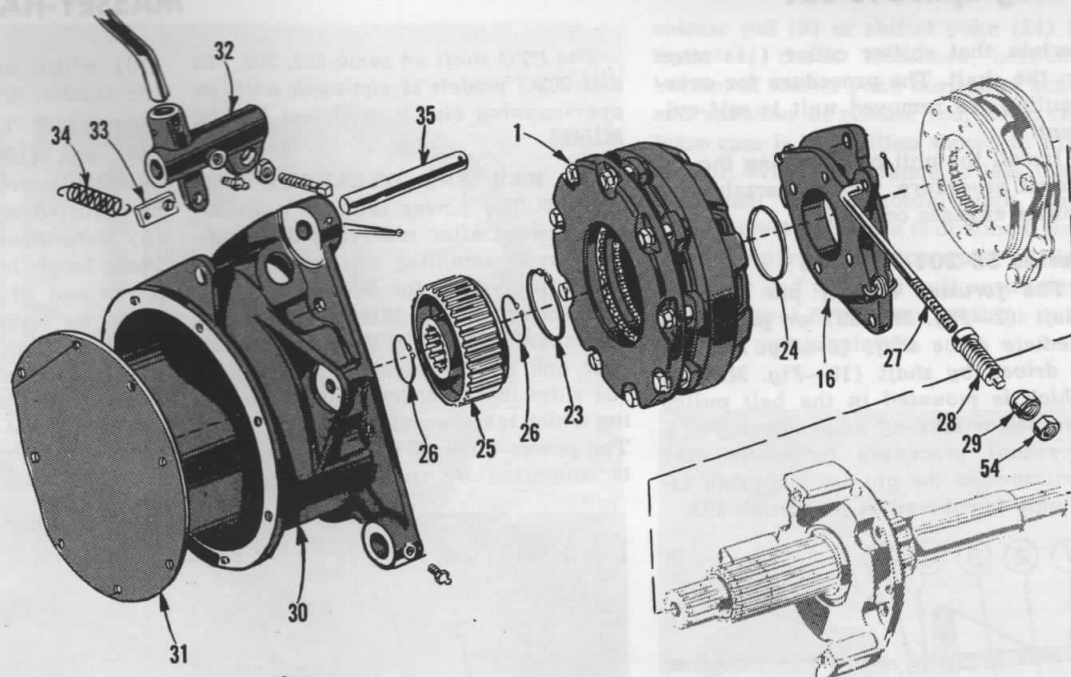

**Fig. MH425A—Series 44 power release view after clutch assembly is removed.**
**311. CLUTCH (CONTINUOUS TYPE) OVERHAUL.** To remove the clutch assembly and the power release mechanism, first remove the right hand fender and platform and remove cover from clutch housing. Extract snap ring (3—Fig. MH424) and withdraw adapter gear (2). Remove snap ring (3—Fig. MH425) and withdraw clutch assembly from housing. Remove snap ring (24—Fig. MH426) and disconnect rod (3—Fig. MH425A). Remove cap screws (1) and withdraw the power release mechanism.